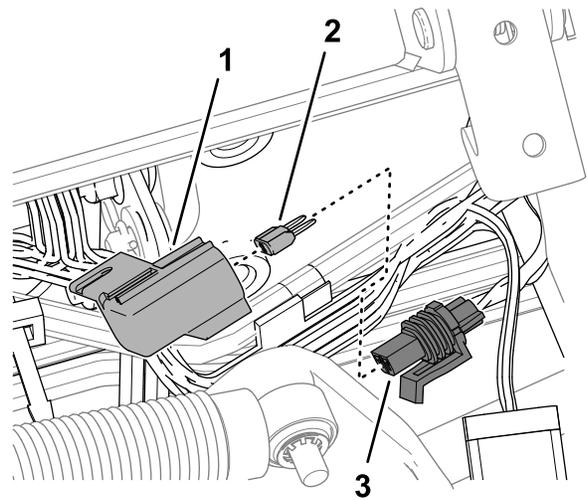

Figure 99
3. Remove the cap from the in-line fuse holder labeled 10 A FUSE TELEMATIC PWR (Figure 99).